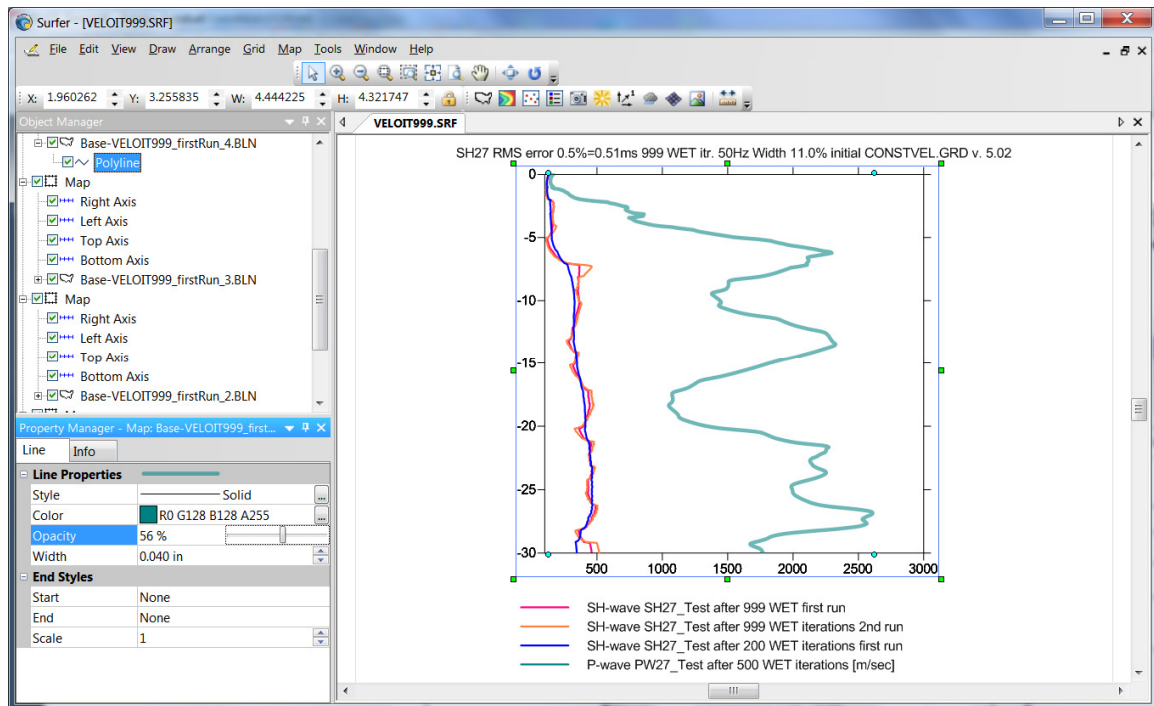

Fig. 27 : plot multiple 1D vertical velocity grid slices in same Surfer plot. See next two pages for instructions.
Fig. 29 : select *Grid/Edit downhole VSP plot*. Edit as shown. Click button **Display VSP plot**. Navigate into folder C:\RAY32\SH27_Test\HOLETOMO and select VELOIT999.GRD to obtain Fig. 27.
6. repeat steps 1. to 5. for all downhole VSP Surfer .GRD files VELOITXY.GRD which you want to plot as 1D elevation vs. velocity graphs in the same Surfer plot (Fig. 27). Select these VELOITXY.GRD in your ..\HOLETOMO folders C:\RAY32\SH27_TEST\HOLETOMO and C:\RAY32\PW27_TEST\HOLETOMO as shown in Fig. 29.
11. navigate into folder C:\RAY32\SH27_Test\HOLETOMO and select any .GRD file e.g VELOIT999.GRD to obtain Fig. 27